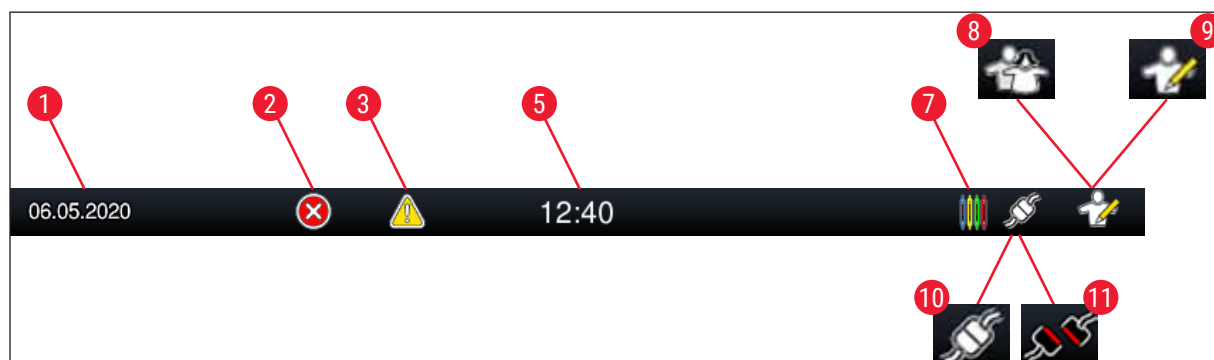

Fig. 16
4. The current user status is displayed with the respective symbol in the status bar (→ "Fig. 16") on the top right.